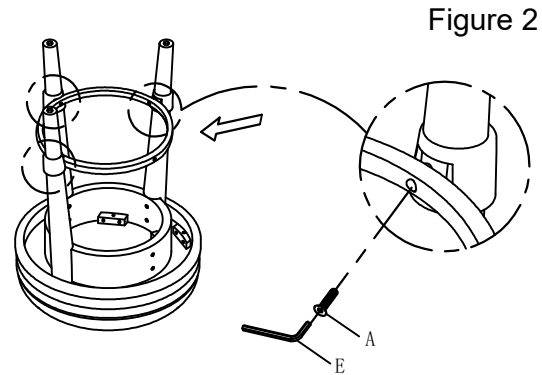

Figure 2
3. Attach the bottom frame to the leg and tighten Bolt (A) by Allen Wrench (E) as shown in Figure 2.